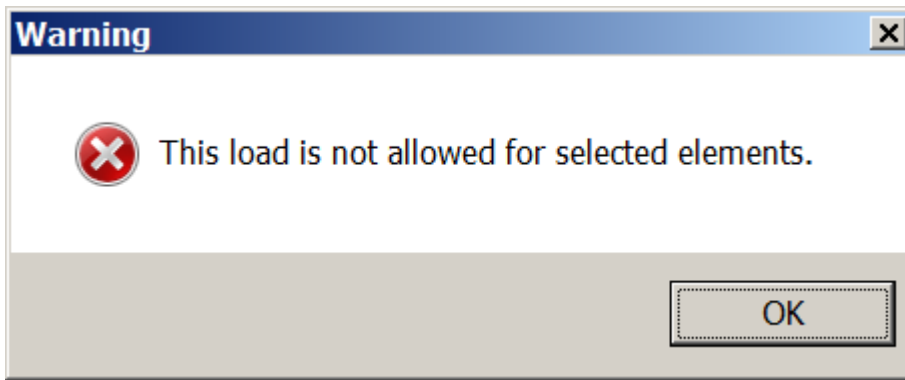

Figure 22.17 Warning message box
- ⇒ The **Warning** message box is displayed (see Fig.22.17). Click **OK**.